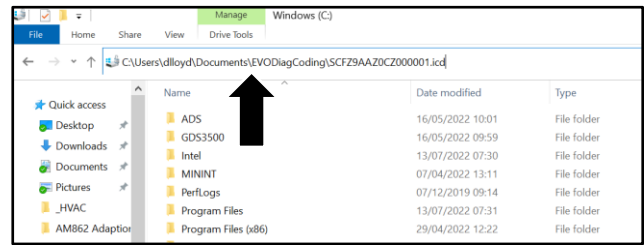

Figure 5
- Paste the file address into the address bar (refer to Figure 5).